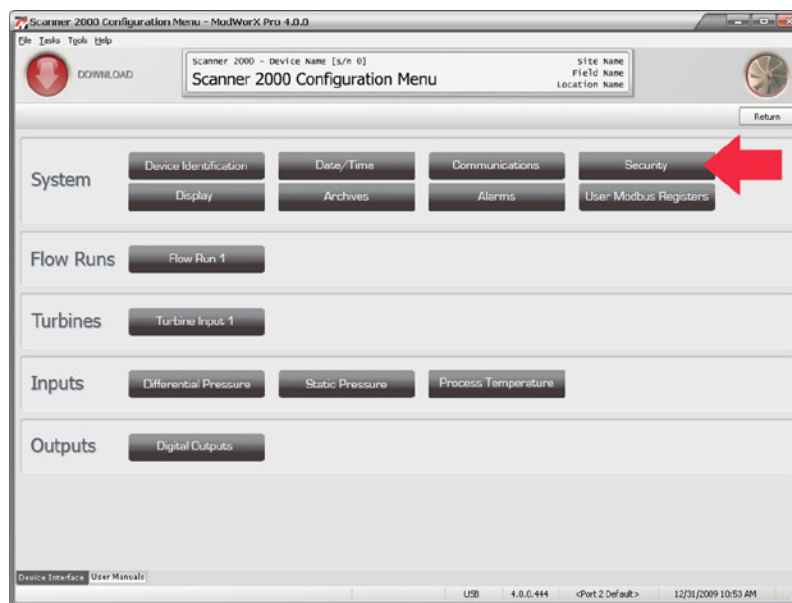
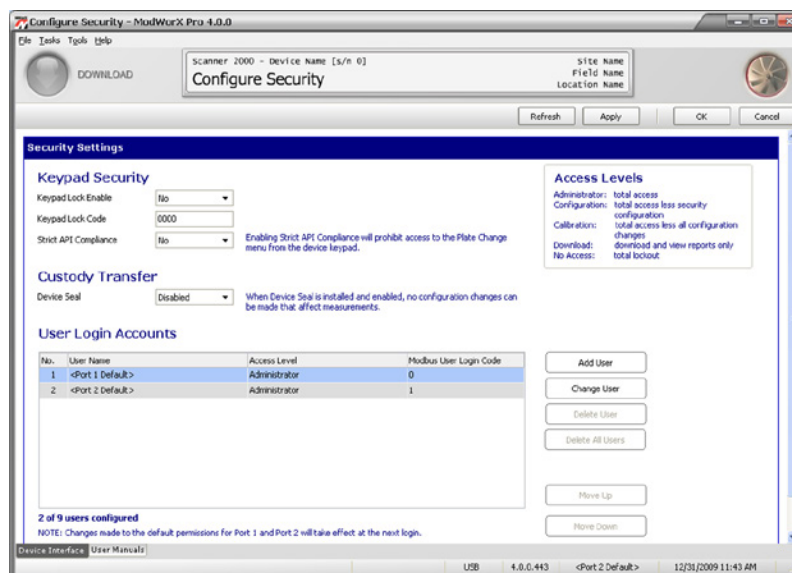

Figure 3.13
Figure 3.14
1. Click the **Configure** button on the Main Display screen. Then, click the **Security** button on the Configuration Menu screen (Figure 3.13, page 40). The Configure Security screen (Figure 3.14, page 40) will appear.
When a device seal is installed on a Scanner 2000 for compliance with Measurement Canada custody transfer regulations, the Device Seal status on the Configure Security screen must be set to **Enabled** to prohibit configuration changes that can affect measurements (Figure 3.14, page 40). The clearing of flow totals is also prohibited when the device seal is installed and enabled. See the Scanner 2000 User Manual, Part No. 9A-30165023, for instructions on installing the device seal for compliance with Measurement Canada regulations.